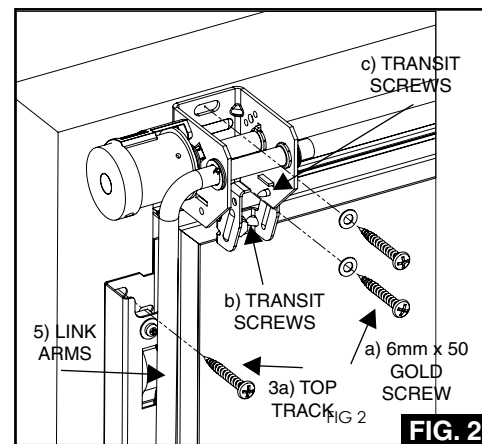

FIG. 2
- Remove the 4 screws that secure the two spring mounting brackets (See Fig 2). **Important: DO NOT let the spring shaft assembly drop down uncontrolled.**
- 2a. Insert the **gold** coloured screws with M6 washers into the slotted holes at the top of both Spring Mounting Brackets. Drive in screws but do not fully tighten at this stage (See Fig 2).
- 2c. Remove remaining screw from side of Transit Brackets (See Fig 2) and discard the Transit Brackets.
- 3a. On the **upper** fixing slot in each Track pilot drill 4.0 dia. x 25 deep and insert a No.12 x 1 1/2" Round Head Posi Screw (See Fig 2).
- 5a. Check that both Link Arms (See Fig 2) are equally set relative to edge of door panel and re-check that door is positioned centrally between side jambs (any minor adjustment will be available on the Spring Mounting Bracket top slotted holes).